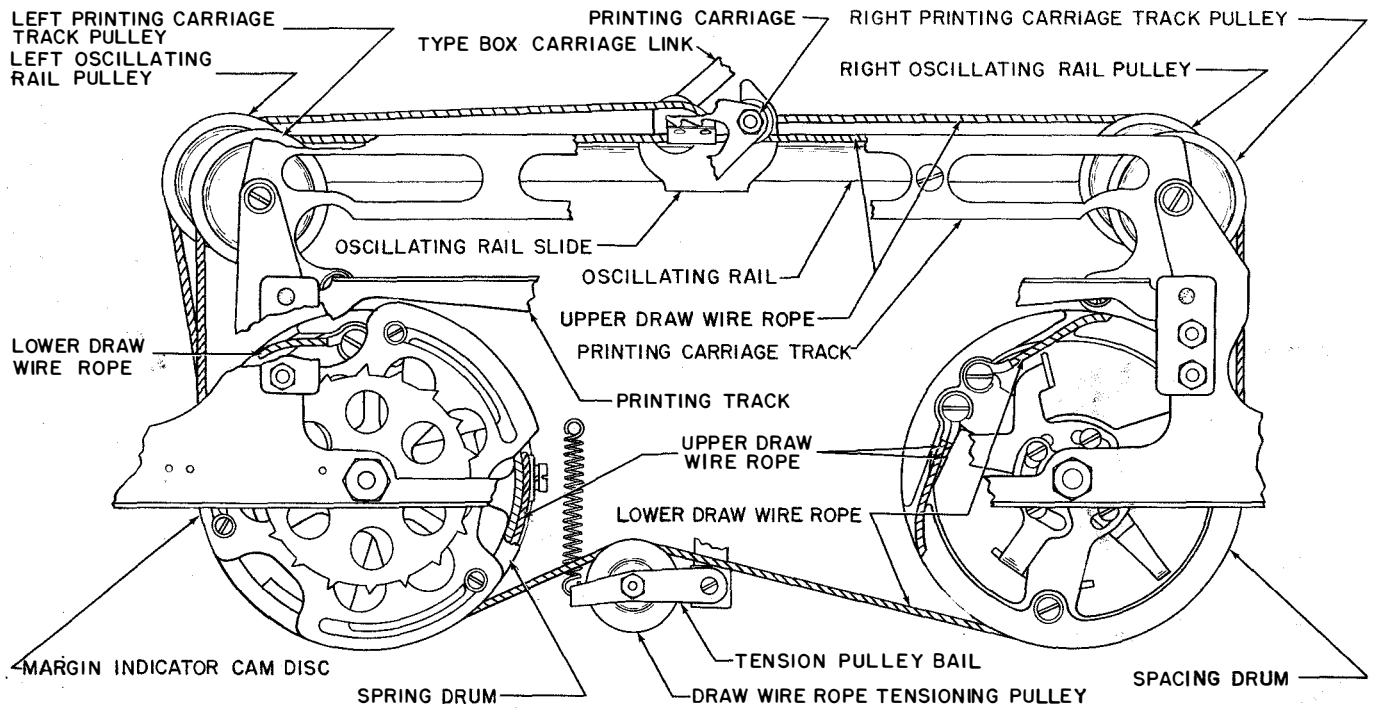
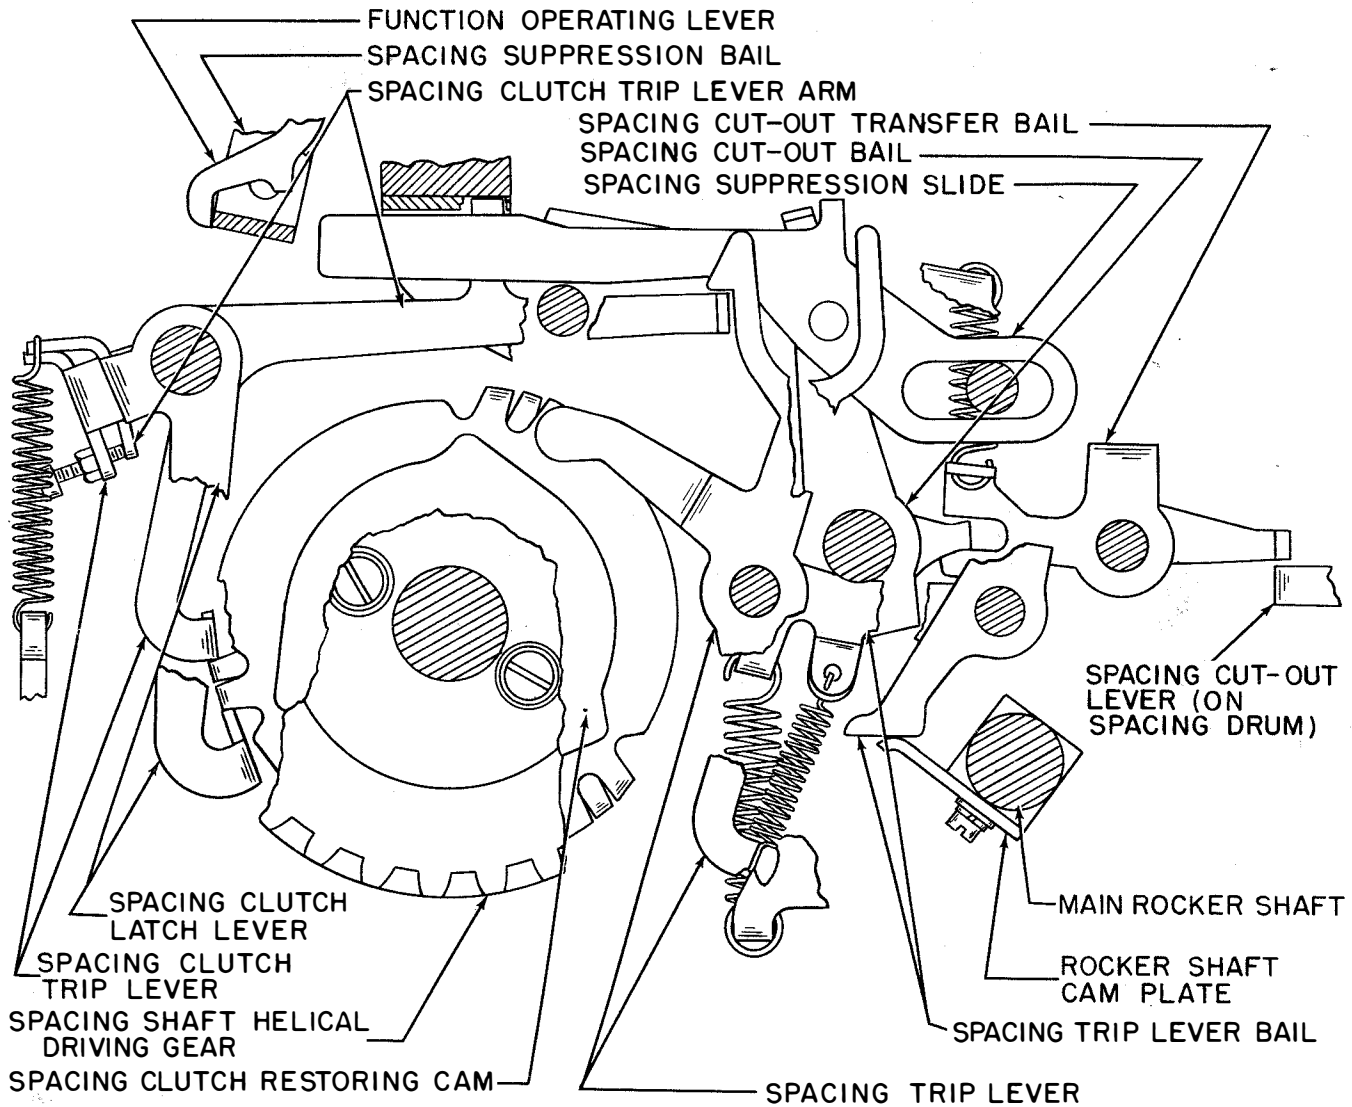

Figure 2-44. Draw Wire Rope Mechanism
Figure 2-52. Spacing and Spacing Suppression Mechanism
passing part way around the spring drum, the upper draw wire rope is doubled backward around it and passes upward to the left printing carriage rail pulley, over to the right printing carriage rail pulley, and downward to the spacing drum to which it is again fastened. The lower draw wire rope is fastened at its left end to the spring drum and, at its right end, to the spacing drum. It acts in opposition to the upper draw wire rope and holds the two drums in phase (figure 2-44). A tensioning pulley rides the underside of the lower draw wire rope, to take up any slack which may occur due to stretching of the upper and lower draw wire ropes. The oscillating rail is supported by pivoted arms at each end. These arms which extend downward are pivoted to the automatic typer frame at their lower ends. Thus, the oscillating rail and the draw wire rope that it carries may be shifted to the left or right with no change in position relative to each other. The oscillating rail shift slide and two oscillating rail shift links are used
(1) GENERAL.—To properly space the printed character, the type box and printing carriages must be advanced with each character printed. As was shown in paragraph 4.e.(2)(a) of this section and figure 2-44, the carriages are connected to a draw wire rope which, in turn, is fastened to the spring drum and spacing drums. The purpose of the spring drum which contains a torsion spring is to tension the draw wire rope and thus the carriage to the left. The spacing drum has ratchet teeth about its perimeter which are engaged by the eccentric driven spacing drum feed pawls (figure 2-51). The spacing shaft which mounts the spacing eccentrics is driven, through its helical gear, by the helical driving gear attached to the three stop spacing clutch on the main shaft. The gear ratio of  $1\frac{1}{2}$  to 1 causes the spacing shaft to turn one-half of a revolution each time the spacing clutch is tripped. This allows the feed pawls to advance the spacing drum by the amount of one ratchet tooth. As shown earlier, each time the Automatic Typer operates, the main rocker shaft is made to oscillate about its center. A cam plate which is fastened to the lower side of the rocker shaft is in its lowest position during the rest time. During the time that printing is to take place, the cam plate is moved upward by the shaft and operates the spacing trip lever bail. As this bail is rotated about its pivot point, it raises the spacing trip lever until it latches onto the spacing clutch trip lever arm (figure 2-52). As the rocker shaft reverses its direction of rotation, the spacing trip lever bail and trip lever move downward thus causing the latched up spacing clutch trip lever arm to operate the spacing clutch trip lever and release the spacing clutch. Before the spacing clutch completes one-third of a revolution, its restoring cam moves the spacing trip lever about its pivot point until it releases the spacing clutch trip lever arm. This, in turn, releases the spacing clutch trip lever which returns to its normal position in time to stop the spacing clutch after one-third of a revolution. The spacing clutch three-stop cam disk has indents at each stop position. The spacing clutch latch lever follows this cam disk and is thereby held away from the clutch drum until one of the three lugs on the clutch shoe lever disk passes under the latch lever and is stopped by the function clutch trip lever. Due to its inertia the three-stop clutch cam disk continues to turn until its lug makes contact with the lug on the clutch shoe lever. At this point the latch lever drops into the indent in the cam disk, and the clutch is held disengaged until the trip lever is again operated.
(2) SPACING SUPPRESSION.—When certain
I-751 on the cabinet is illuminated. The contact mechanism which controls the lamp circuit is mounted on the Keyboard and is fully described in paragraph 3.k. of this section. The actuator of this contact mechanism is a disk which is mounted on the spring drum of the Automatic Typewriter (figure 2-44). The angular position of this cam disk with respect to the spring drum may be altered to change the point at which the indicator will light.